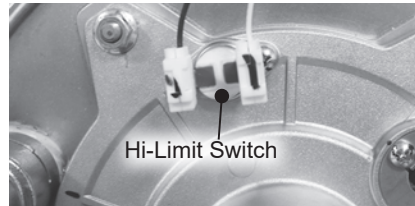

Figure 117 - Burner door hi-limit location
15 Locate the burner door hi-limit on the burner assembly as shown in Figure 117. Disconnect the two (2) wire leads from the hi-limit assembly and route them inside the water heater cabinet for ease of access to burner door.